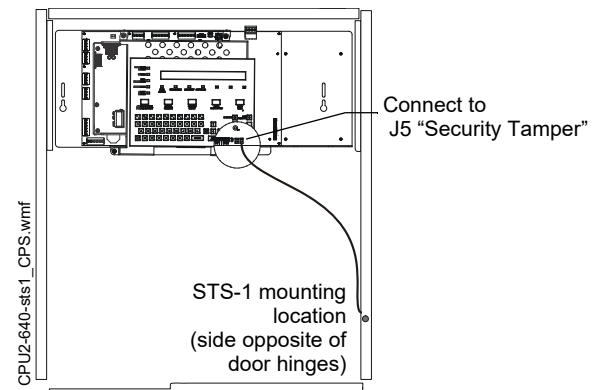

Figure 2 Installing the STS-1 Security Tamper Switch
Refer to Figure 2.
3. Connect the STS-1 connector to J5 (Security Tamper) on the Control Panel. (As shown in Figure 2, J5 is located on the circuit board, underneath the edge of KDM-R2.)